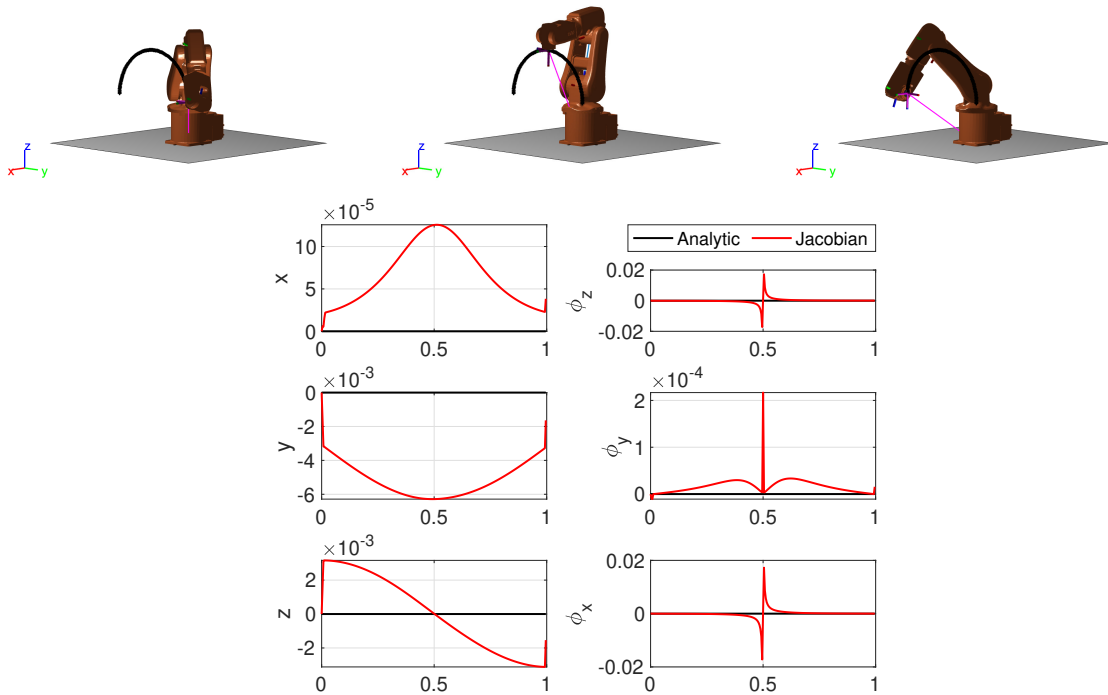

Figure 4: Snapshots from the IK sequence and error for each component for both methods.
4. Find the Jacobian matrix $J(\mathbf{q})$ of the 2R planar robot in Fig. 4 through direct differentiation.
Implement the above, using `geometricJacobian` and starting with \mathbf{q}_0 from one of the *IK* solvers. Generate a subplot to compare the end-effector pose from the actual desired trajectory, and the two IK methods implemented by calculating the error for each component as shown in Fig. 4. You can decompose the end-effector orientation using `rotm2eul` to compare. Jacobian animation: `hw3-ik-jacobian.mp4`.